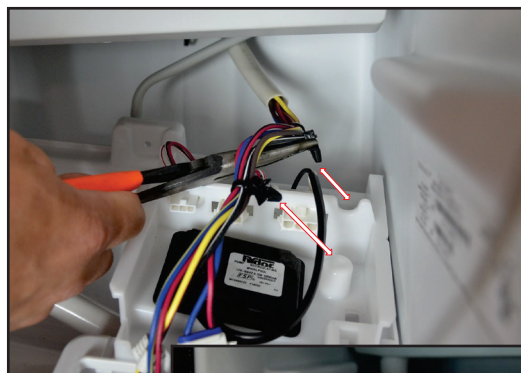

FIGURE 15
11. Use a pair of pliers to remove christmas tree retainers. See *Figure 15*.